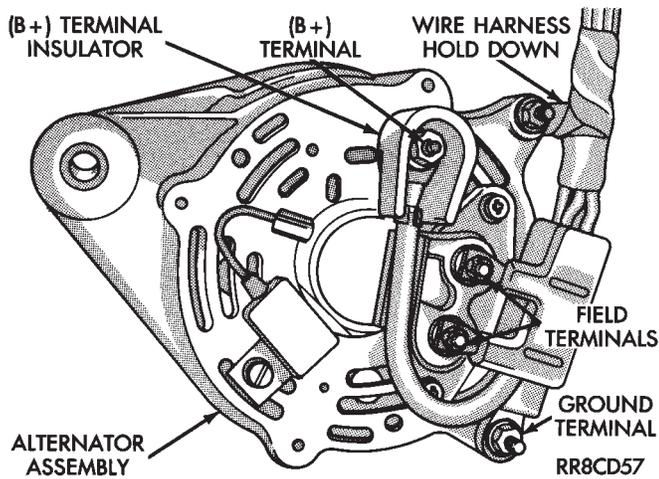

Fig. 4 Remove or Install Wire Connector Assembly—Bosch Alternator
- BOSCH ALTERNATOR: Remove B+ terminal nut, field terminal nuts, and ground harness hold down nuts (Fig. 4). Remove wire connector assembly.